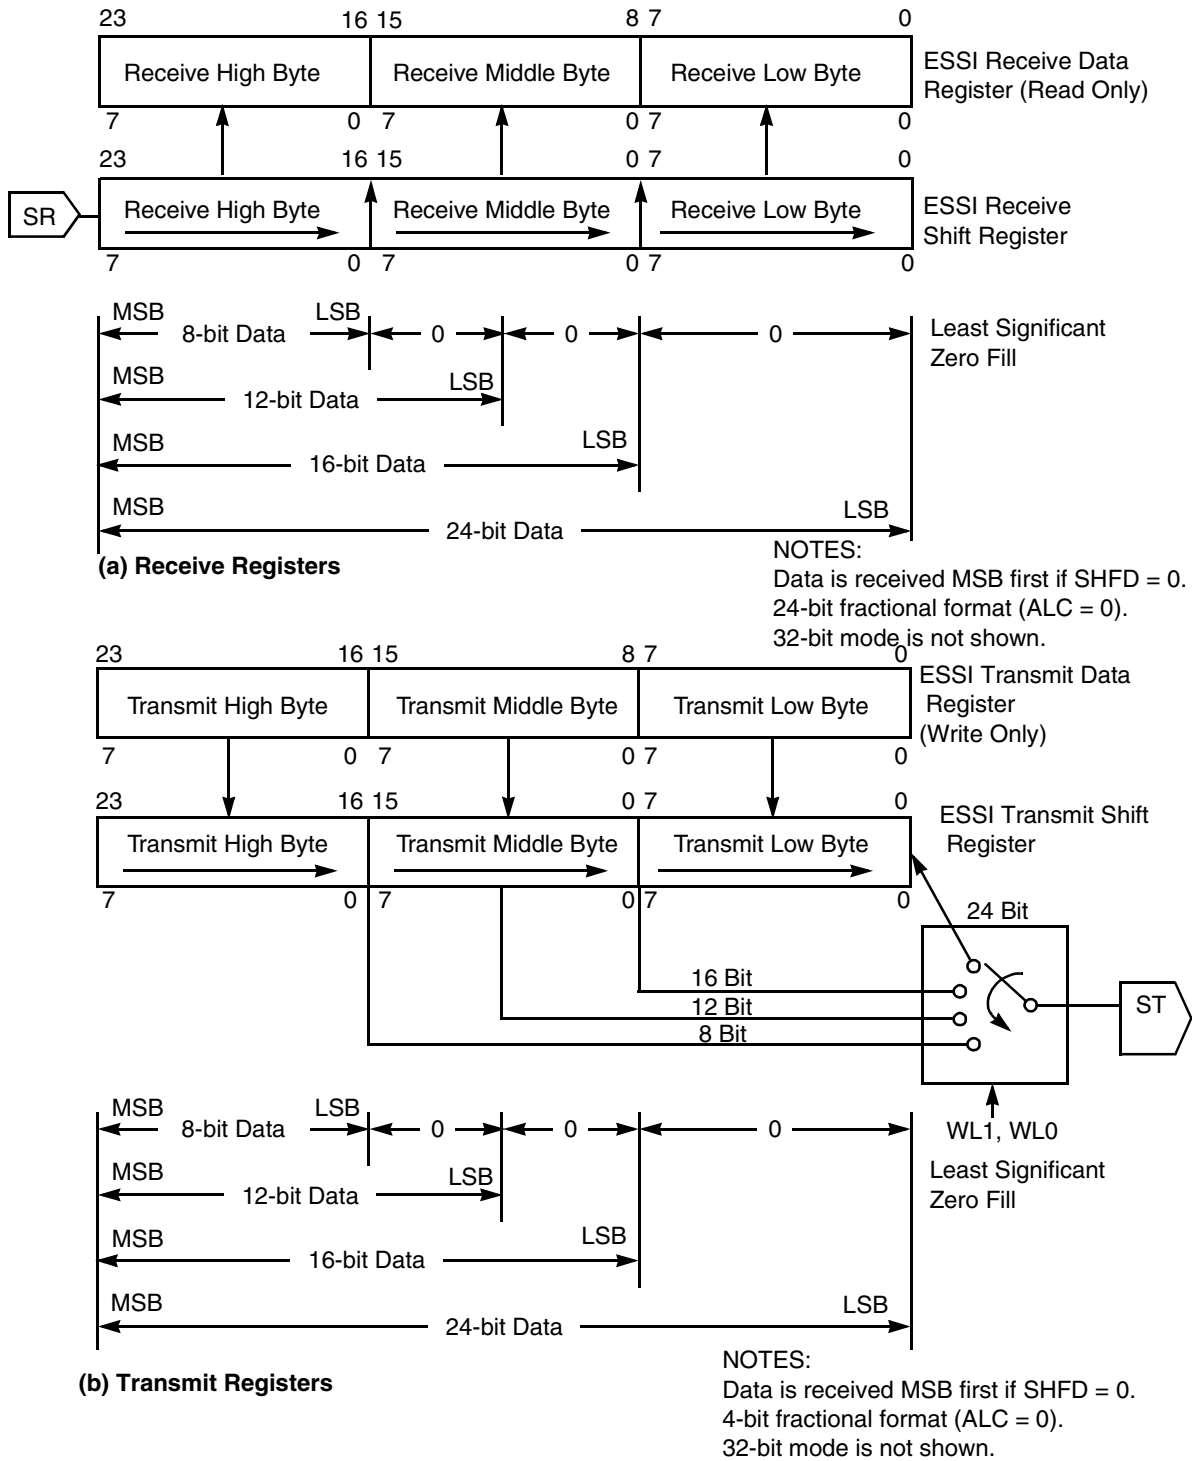

Figure 7-13. ESSI Data Path Programming Model (SHFD = 1)
The 24-bit Receive Shift Register (see **Figure 7-12** and **Figure 7-13**) receives incoming data from the serial receive data signal. The selected (internal/external) bit clock shifts data in when the associated frame sync I/O is asserted. Data is received MSB first if SHFD is cleared and LSB first if SHFD is set. Data transfers to the ESSI Receive Data Register (RX) after 8, 12, 16, 24, or 32 serial clock cycles are counted, depending on the word length control bits in the CRA.
7.5.5 ESSI Receive Data Register (RX)
The Receive Data Register (RX) is a 24-bit read-only register that accepts data from the receive shift register as it becomes full, according to **Figure 7-12** and **Figure 7-13**. The data read is aligned according to the value of the ALC bit. When the ALC bit is cleared, the MSB is bit 23, and the least significant byte is unused. When the ALC bit is set, the MSB is bit 15, and the most significant byte is unused. Unused bits are read as 0. If the associated interrupt is enabled, the DSP is interrupted whenever the RX register becomes full.
The three 24-bit transmit shift registers contain the data being transmitted, as in **Figure 7-12** and **Figure 7-13**. Data is shifted out to the serial transmit data signals by the selected (whether internal or external) bit clock when the associated frame sync I/O is asserted. The word-length control bits in CRA determine the number of bits that must be shifted out before the shift registers are considered empty and can be written again. Depending on the setting of the CRA, the number of bits to be shifted out can be 8, 12, 16, 24, or 32. Transmitted data is aligned according to the value of the ALC bit. When ALC is cleared, the MSB is Bit 23 and the least significant byte is unused. When ALC is set, the MSB is Bit 15 and the most significant byte is
TX2, TX1, and TX0 are 24-bit write-only registers. Data written into these registers automatically transfers to the transmit shift registers. (See **Figure 7-12** and **Figure 7-13**.) The data transmitted (8, 12, 16, or 24 bits) is aligned according to the value of the ALC bit. When the ALC bit is cleared, the MSB is Bit 23. When ALC is set, the MSB is Bit 15. If the transmit data register empty interrupt has been enabled, the DSP is interrupted whenever a transmit data register becomes empty.
TSMA and TSMB (as in **Figure 7-12** and **Figure 7-13**) can be seen as a single 32-bit register, TSM. Bit n in TSM (TSn) is an enable/disable control bit for transmission in slot number N. When TSn is cleared, all the data signals of the enabled transmitters are tri-stated during transmit time slot number N. The data still transfers from the enabled transmit data register(s) to the transmit shift register. However, the TDE and the TUE flags are not set. Consequently, during a disabled slot, no transmitter empty interrupt is generated. The DSP is interrupted only for enabled slots. Data written to the transmit data register when the transmitter empty interrupt request is serviced transmits in the next enabled transmit time slot. When TSn is set, the transmit sequence proceeds normally. Data transfers from the TX register to the shift register during slot number N, and the TDE flag is set. The TSM slot mask does not conflict with the TSR. Even if a slot is enabled in the TSM, you can chose to write to the TSR to tri-state the signals of the enabled transmitters during the next transmission slot. Setting the bits in the TSM affects the next frame transmission. The frame being transmitted is not affected by the new TSM setting. If the TSM is read, it shows the current setting.
RSMA and RSMB (as in **Figure 7-12** and **Figure 7-13**) can be seen as one 32-bit register, RSM. Bit n in RSM (RS_n) is an enable/disable control bit for time slot number N . When RS_n is cleared, all the data signals of the enabled receivers are tri-stated during time slot number N . Data transfers from the receive data register(s) to the receive shift register(s), but the RDF and ROE flags are not set. Consequently, during a disabled slot, no receiver full interrupt is generated. The DSP is interrupted only for enabled slots. When RS_n is set, the receive sequence proceeds normally. Data is received during slot number N , and the RDF flag is set.